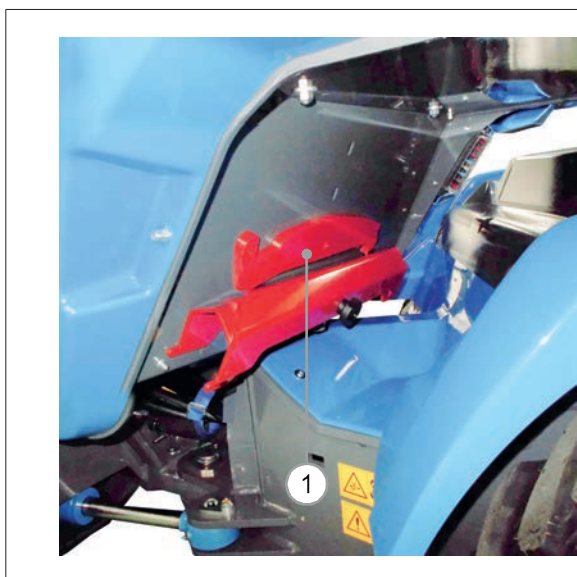

FIG. 19
- 3) Loosen the knob (FIG. 19 - Ref. 1) fixing the steering lock bracket and that of the locking of the lifting arm.